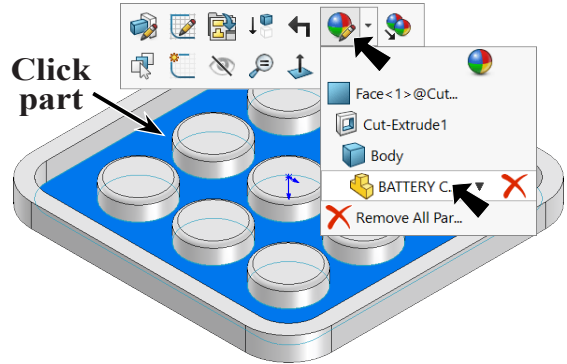

Fig. 30
Step 1. Click the Battery Cover to select part, click **Appearances Callout**  on the context toolbar and click **Battery Cover** , Fig. 30.